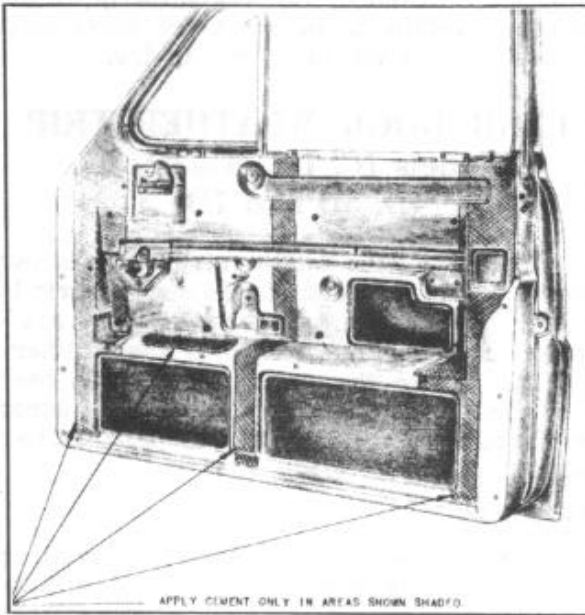

FIGURE 32
1. Apply trim cement to the surface of the door inside panel in the shaded area shown in Figure 32.